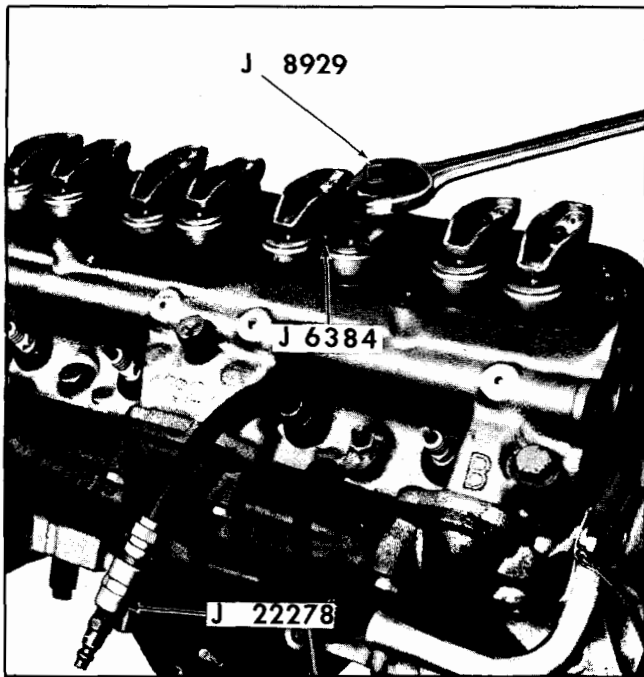

Fig. 6-102 Compressing Valve Spring
5. After removing rocker arm, thread valve spring compressor stud J 8929-1 on rocker arm stud and compress valve spring, using compressor J 6384-1 and nut J 8929-2 (Fig. 6-102). Remove valve spring retainer cup locks and then remove valve spring compressor,